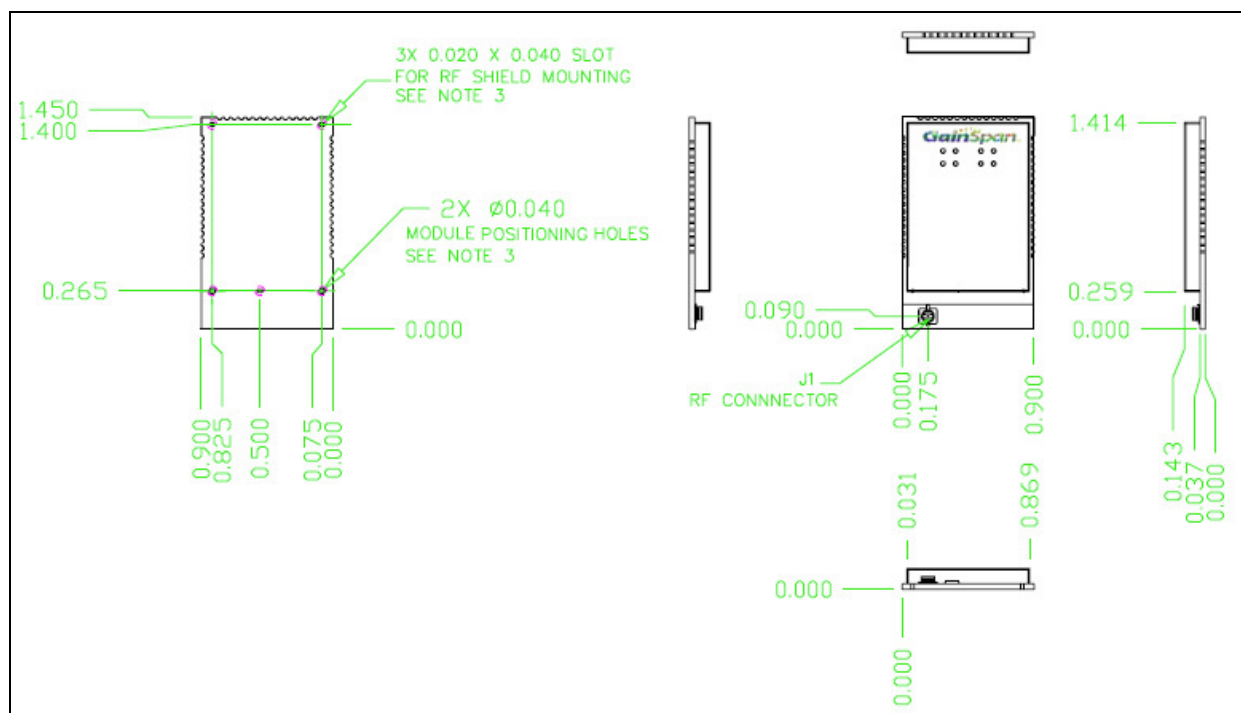

Figure 5-4: GS1011MEx Module Dimensions (in inches)
- The PCB antenna keep out area, as shown in Figure 5-4, must be adhered to. Ground plane on the base board should be kept further away if possible, and should not fully enclose the PCB antenna.